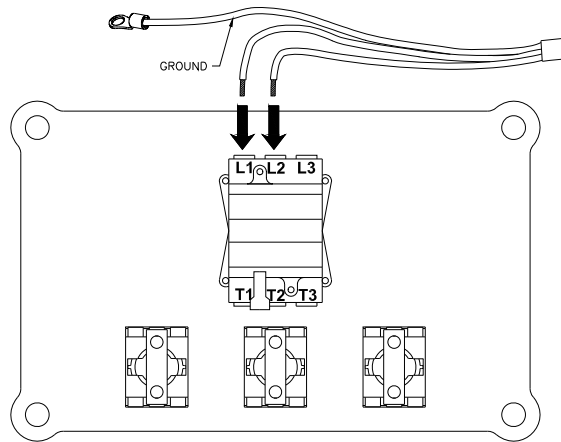

Fig. 4 – Power Supply Connection
- 11) Connect the electrical supply to the contactor (**L1 & L2**) on the back side of the cover, **Fig. 4**. Connect the ground wire to the console below the cover.